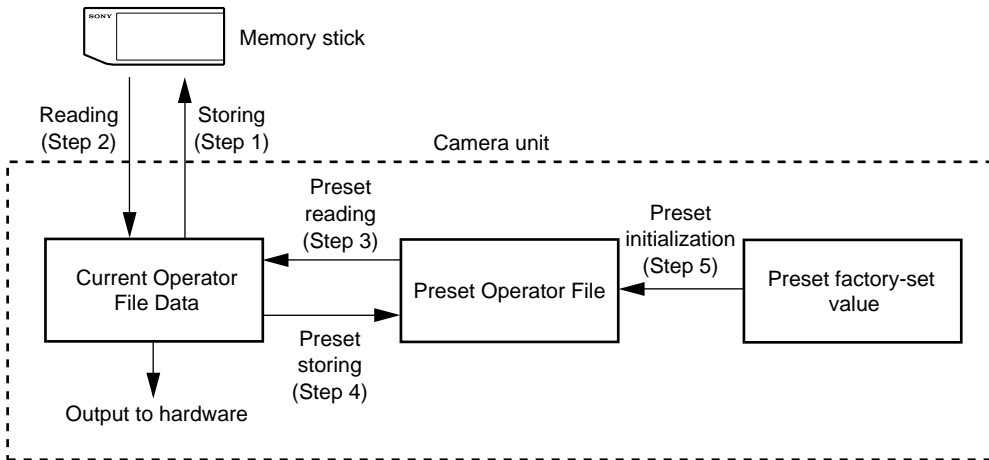

Fig. 5-2. Operating Procedure for Operator Files
### Storing the Operator File to the Memory Stick (Refer to step 1 of Fig. 5-2.)
### Reading the Operator File from the Memory Stick (Refer to step 2 of Fig. 5-2.)
**Calling Using the Setup Menu (Refer to step 3 of Fig. 5-2.)**
**Calling without Using the Setup Menu (Refer to step 3 of Fig. 5-2.)**
**Storing the Preset Values (Refer to step 4 of Fig. 5-2.)**
**Initializing the Preset Values (Refer to step 5 of Fig. 5-2.)**